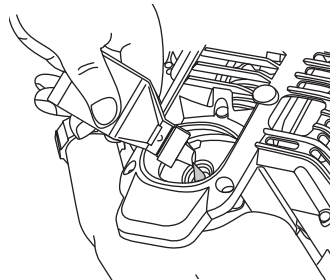

Fig. 5
4. Pour the entire bottle of oil into the oil fill hole (Fig. 5).
2. Place the gas container's spout into the fill hole on the fuel tank (Fig. 5) and fill the tank.